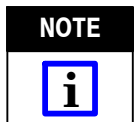

Figure 1
Straight Action Crimpers 217200-[] are designed to be used with the tool holder assembly shown in Figure 1 and accept various crimping dies to adapt them for use with 626 pneumatic tooling assemblies. For information concerning the setup and operation of the pneumatic tool, refer to Customer Manual 409-5862.
2. DESCRIPTION (Figure 1)
3. INSTALLATION AND REMOVAL (Figure 1)